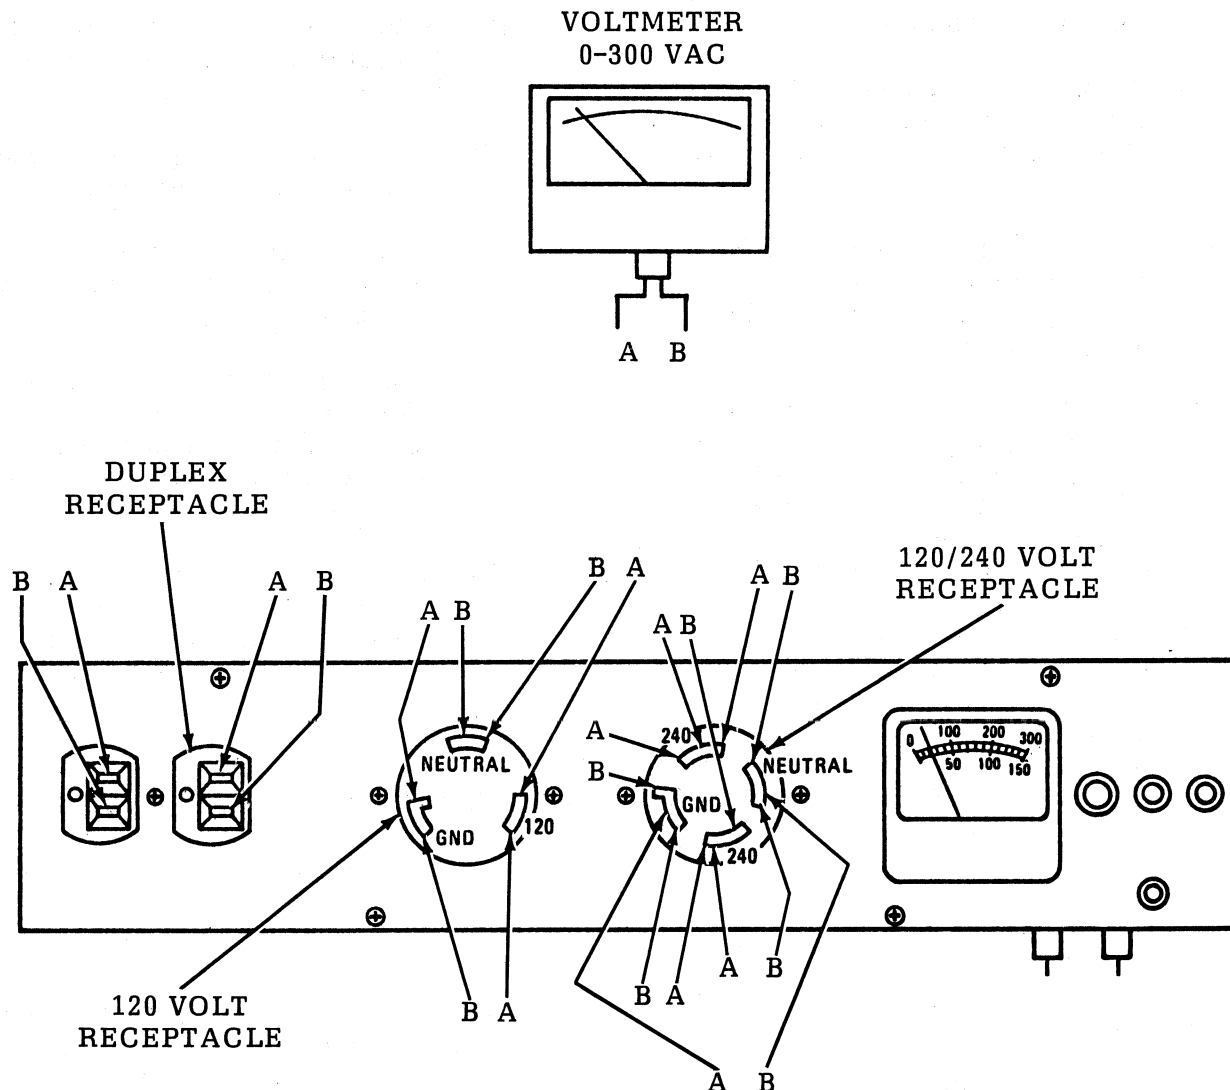

Figure 6-13. AC Circuit Performance Test Checks
as shown in Figure 6-13. The meter should indicate between 120 and 125 volts, if not perform the following:
the "Neutral" and "120" slots of the locking 120 volt receptacle as shown in Figure 6-13. The meter should indicate between 120 and 125 volts.
d. Insert the meter test leads into the "GND" and "120" slots of the locking 120 volt receptacle, as shown in Figure 6-13. The meter should indicate between 120 and 125 volts.